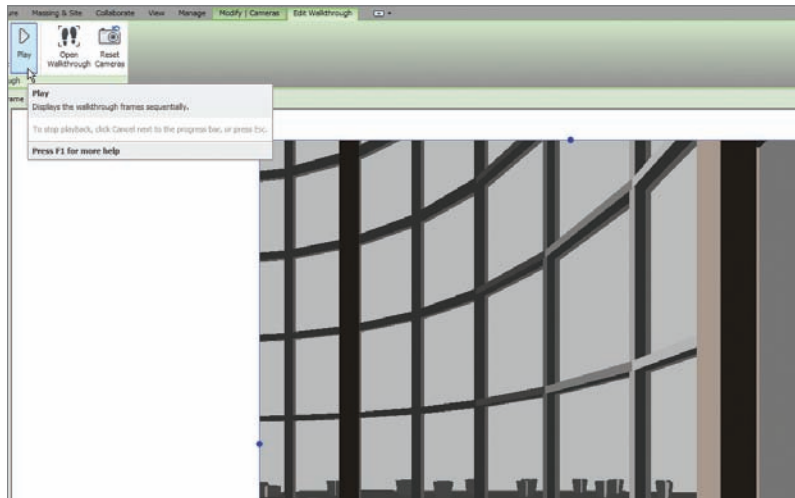

FIGURE 19.20 Clicking the Play button to start the walkthrough
9. On the Options bar, change the first frame to 1, as shown in Figure 19.20.
13. On the Modify | Cameras tab, click the Play button, as shown in Figure 19.20.